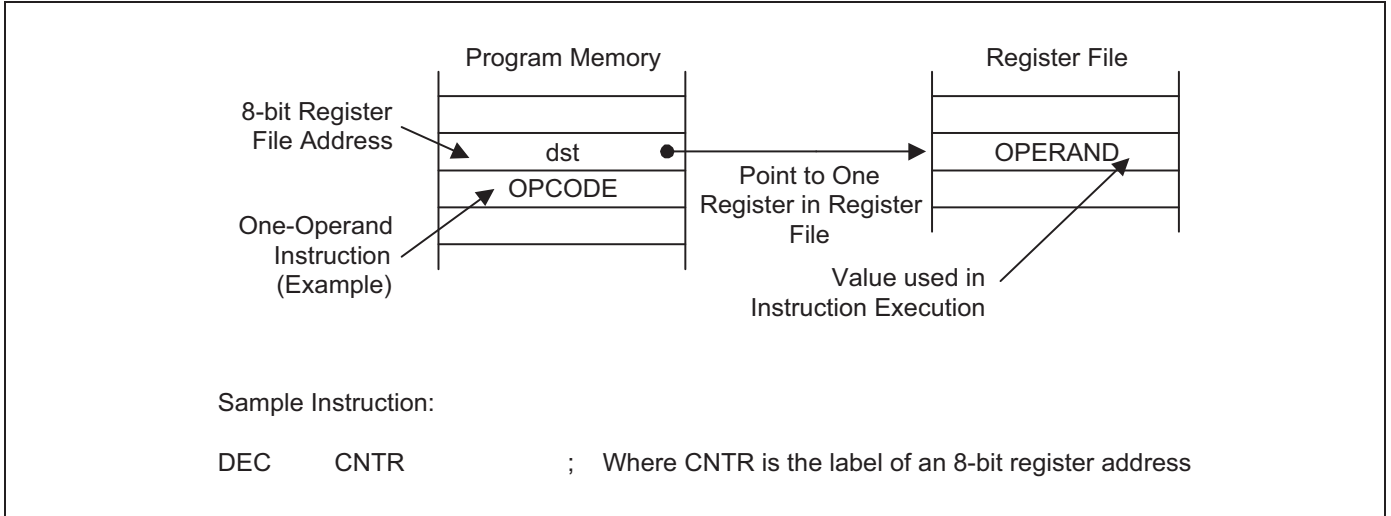

Figure 3-1 Register Addressing
- Register (R)
- Indirect Register (IR)
- Indexed (X)
- Direct Address (DA)
- Indirect Address (IA)
- Relative Address (RA)
- Immediate (IM)
3.2 REGISTER (R) ADDRESSING MODE
In Register (R) addressing mode, the operand value is the content of a specified register or register pair (see Figure 3-1).